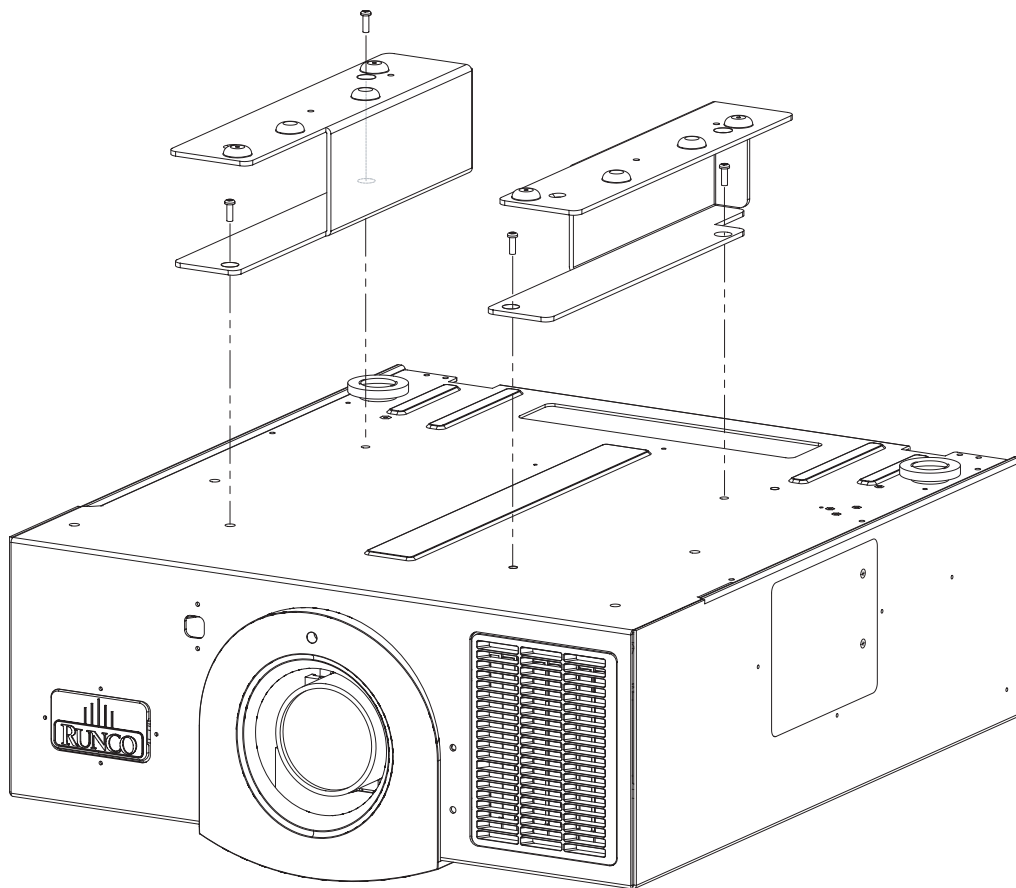

Figure 3-8. VX-3000d with Ceiling Mount Adapters/Projector Stands
Using the four (4), supplied M6 x 12mm Flat-Head Phillips screws (item #6), attach the AutoScope Ceiling Mount Adapters/Projector Stands (items #4 and #5) to the projector as shown in Figure 3-8.